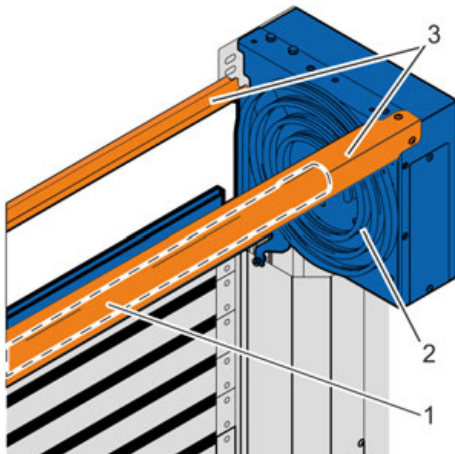
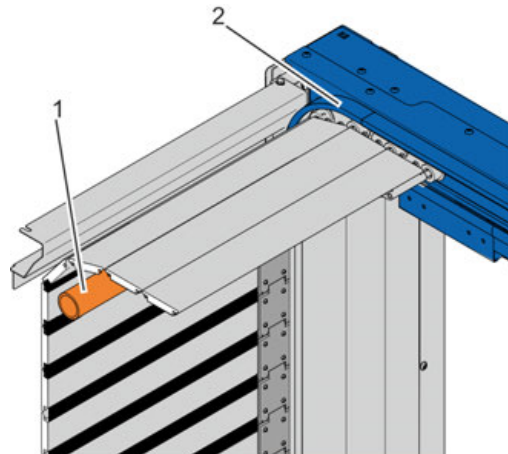

Fig. 7: Round spiral console (278, 304)
Fig. 8: Low spiral console (281)
- Synchronous shaft with bearing (Fig. 7/1 and Fig. 8/1)
- Bevelled, main supports with spiral guide (Fig. 7/2) on both sides or horizontal guide (Fig. 8/2)
- Sheet metal reinforcement profiles (only for 278 and 304 Fig. 7/3)